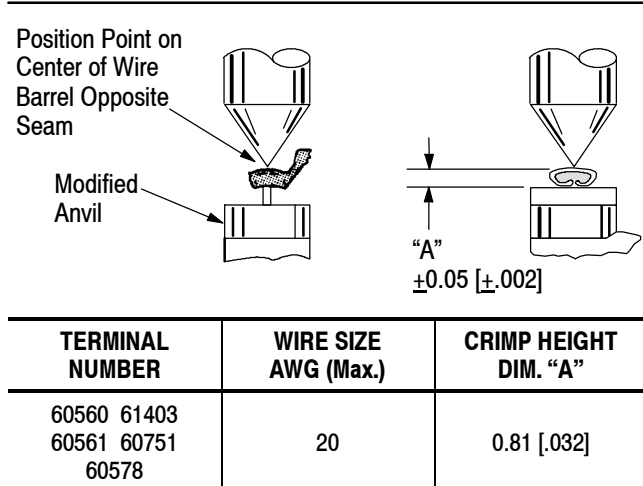

Figure 4
This inspection requires the use of a micrometer, with a modified anvil, as shown in Figure 4. The Crimp Height Comparator RS-1019-5LP is recommended and is available from:
1. Refer to the chart in Figure 4 and select a terminal and a wire (maximum size) for the hand tool.
3. Using a crimp height comparator, measure the wire barrel crimp height as shown in Figure 4. If the